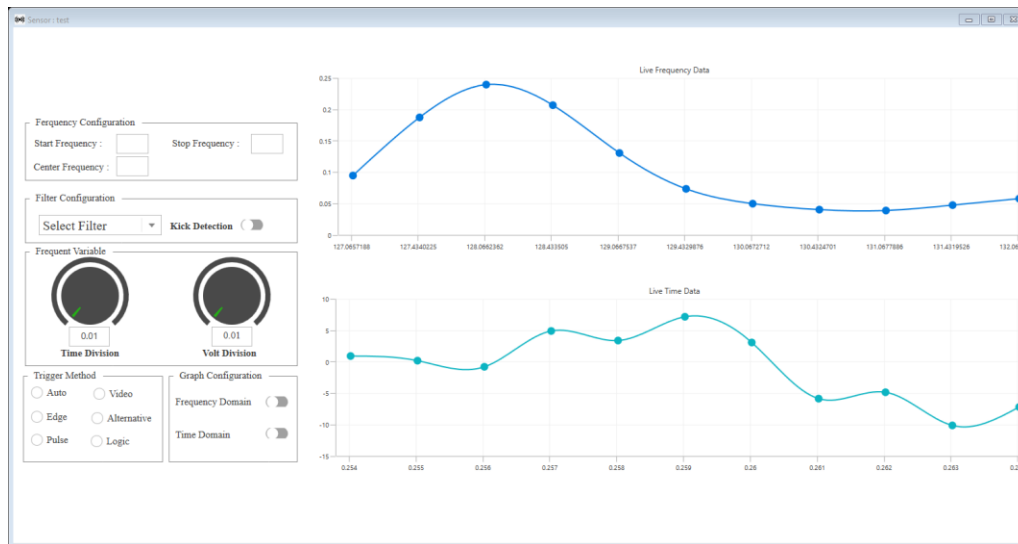

Figure 9. Sensor Information
4. Sensor Name: By clicking on the name of the sensor, Figure 9 is displayed. This information is received from the sensors through the communication channels mentioned before. In this window, you can use the existing icons to change the information received from the sensor, which helps to understand the information better. For example, the time division, volt division, which displays the time and frequency information of the sensors, can be changed, and the received information can be reduced (low amplitude or low frequency) or increased every second. (These functions are the data rate of 1000 data per second).